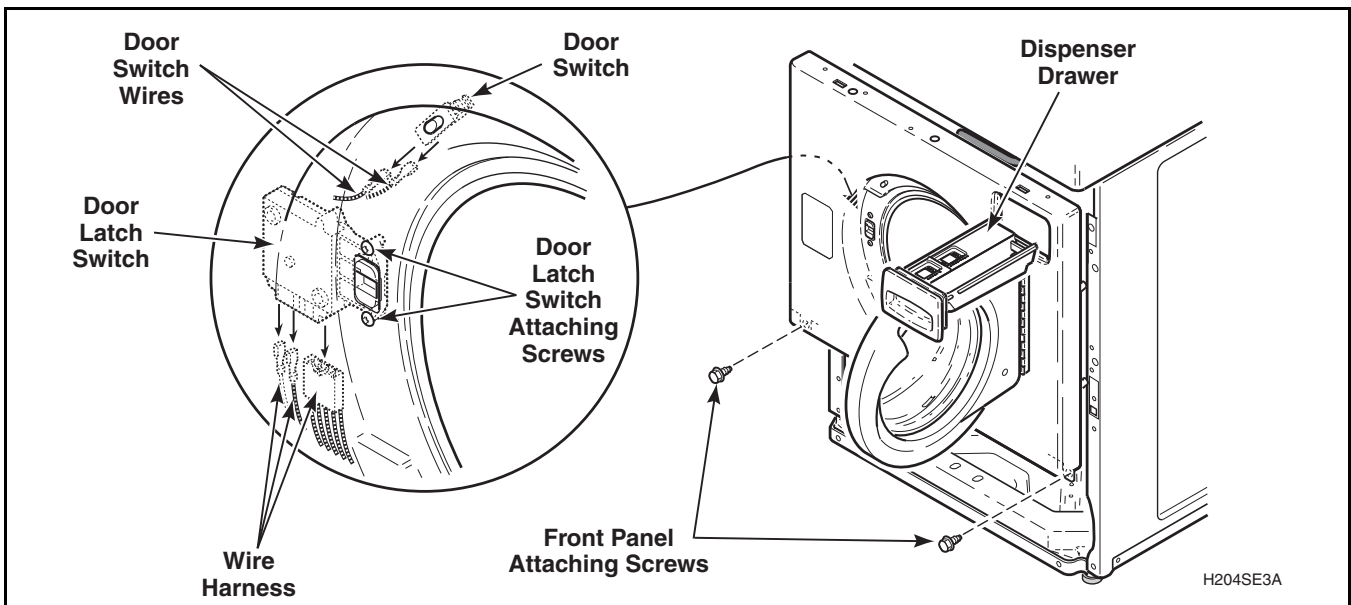

Figure 14
- g. Remove bottom two front panel attaching screws. Refer to *Figure 14*.
- i. Unplug wire harness from both the door latch switch and from the door switch. Refer to *Figure 14*. Remove clips holding wire harness and door seal hose along top flange of front panel and remove front panel.
- (7) Remove bottom two front panel attaching screws. Refer to *Figure 14*.
- (8) Remove front panel (with loading door attached) away from washer as far as wires permit.
- (9) Unplug wire harness from both the door latch switch and from the door switch. Refer to *Figure 14*. Remove clips holding wire harness and door seal hose along top flange of front panel and remove front panel.